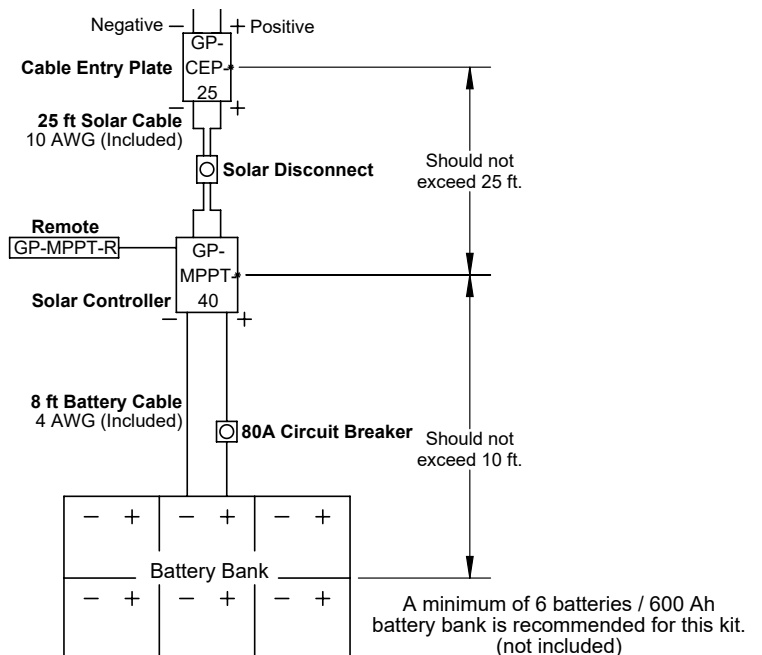

FIGURE 3-A
1. Plan where the GP-MPPT-40 charge controller will mount, see Figure 3-A for more detail including maximum distances.